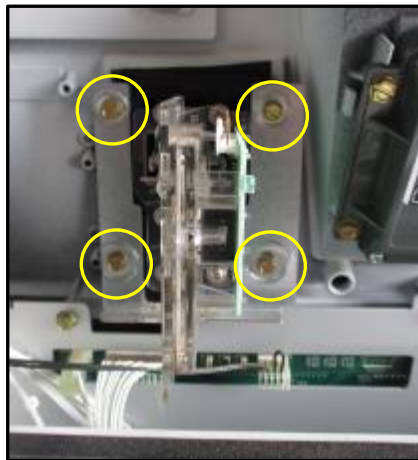

Fig 1.9a – Encore 500S Location of Card Reader plate screws
- 11.** Remove and discard the four sheet-metal screws that fasten the card reader plate to the door (Encore 500S: #6; Encore 700S: 5/16") and remove the card reader and plate from the dispenser door. The card reader plate can be discarded. It will not be re-installed. (Fig 1.9a and 1.9b)